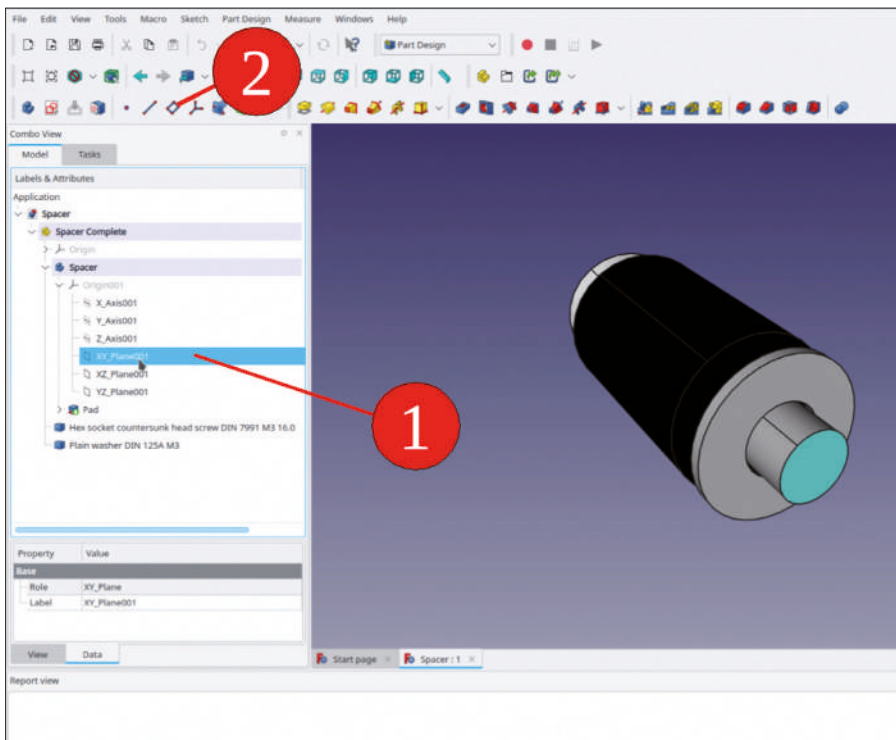
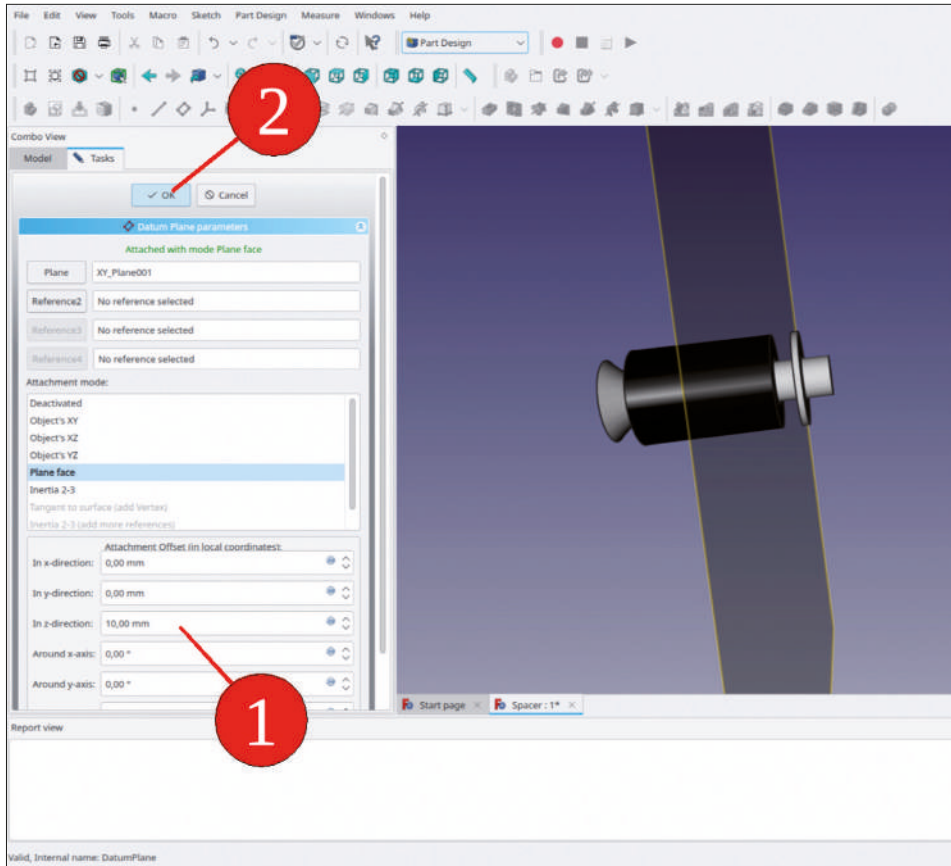

Figure 4-18
Figure 4-19
12. To be able to control the spacer length by it, the datum plane needs to be created in the 'Spacer' body. The 'Spacer' body must be activated to do this, otherwise the datum plane is created in the currently activated entity, which could hide somewhere else. Activate 'Spacer' by double-clicking its item line in the tree view. Expand the coordinate system in it and select the XY plane by clicking the item line (Figure 4-18, number 1), as the alignment of the datum plane should be parallel to it.
Click on the 'Create a Datum Plane' tool button (Figure 4-18, number 2). A task window opens. Because the XY plane was marked before the task was started, the plane is already attached to it and the attachment mode is preset to 'Plane Face' (Figure 4-19). Set the attachment offset in the z-direction to 10 mm, i.e., the intended length of the spacer. Then close the task window with the 'OK' button (top of window). The trick is now to define the spacer length with respect to the new datum plane and refer the washer to the plane position. Then, the washer will diligently follow length changes of the spacer. This looks a bit indirect but provides a rock solid reference to the spacer end face.